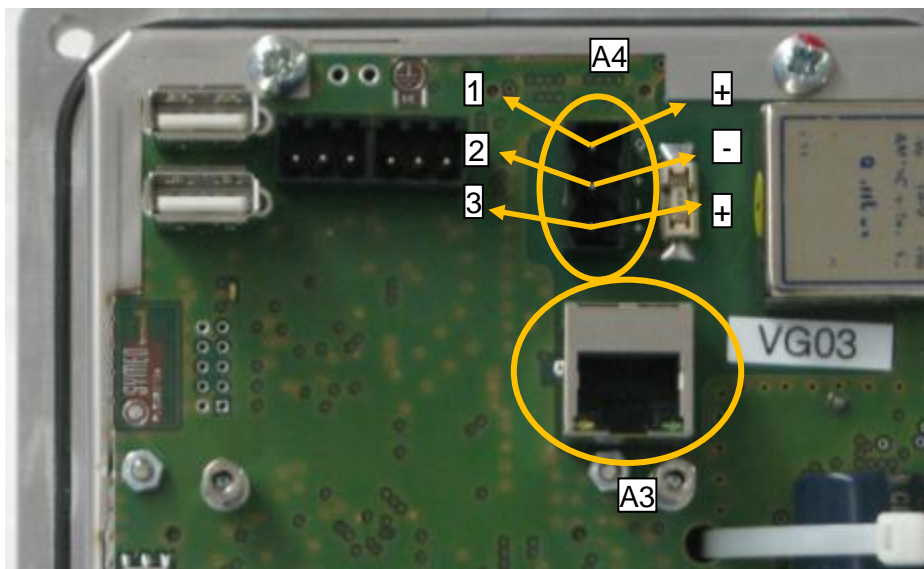

Figure 6: Electrical connections
Figure 6 depicts the pin assignment of (A4): Positive voltage can be connected either at pin 1 or 3, the negative or ground voltage is connected to pin 2.
For standard operation of LPR-1DHP stations with TCP/IP interface the rotary switch (S2) has to be set to position **3** (see Figure 6).
- ⇒ Insert the power supply cable in the cable feedthrough (B3) and connect it to the power supply terminal (A4) on the rear element (A); siehe Figure 6.
- ⇒ Reinsert the Ethernet connector (B5) of the rear element (B) into the connector (A3) of front element (A). Mount the front element (A) on the rear element (B). It might be necessary to tighten the inserted power cable.
- ⇒ Mount the mounting bracket (C) on a pipe installed at a suitable place. Do not tighten the screws of the pipe-clamp yet, the system must be aligned first.
- ⇒ Mount the LPR-1DHP station in the mounting bracket (C). When tightening the screws in the mounting slot (C1) make sure that you can still align the system unit.
- Avoid entry of foreign objects or liquids into the system unit, especially on the PCB stack of front element (A) or within rear element (B).